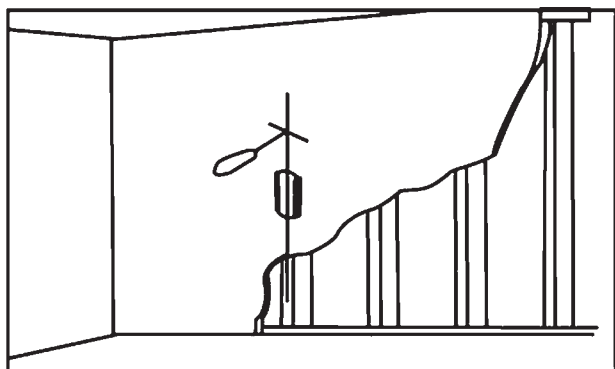

Fig. 3b
Wood stud walls (Fig 3b)
1. Use a pencil, awl, or a nail to mark the location of the wall stud centers (Fig 3b) after locating the stud with an electronic stud locator. The distance between marks should not be less than 16 inches (Studs must not be less than 16 inches (40.6 cm).